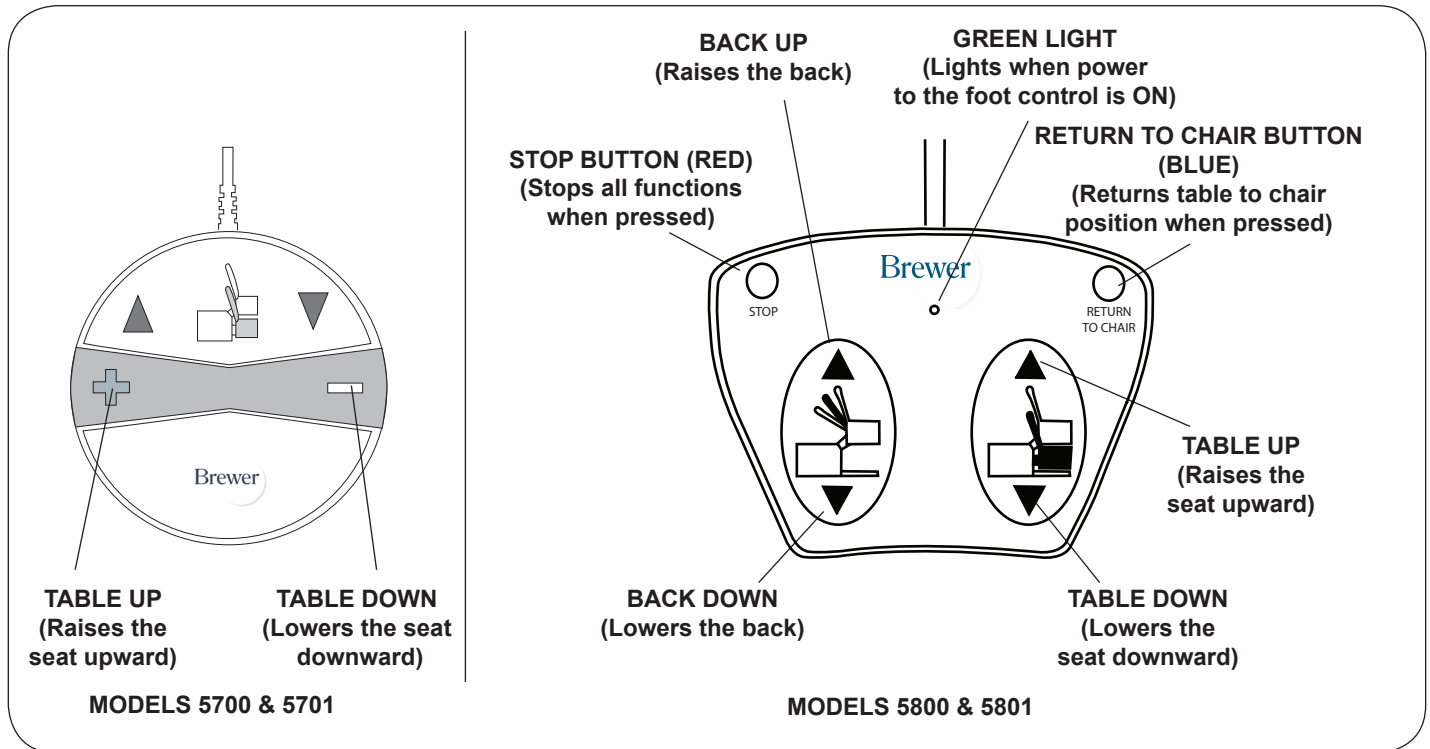
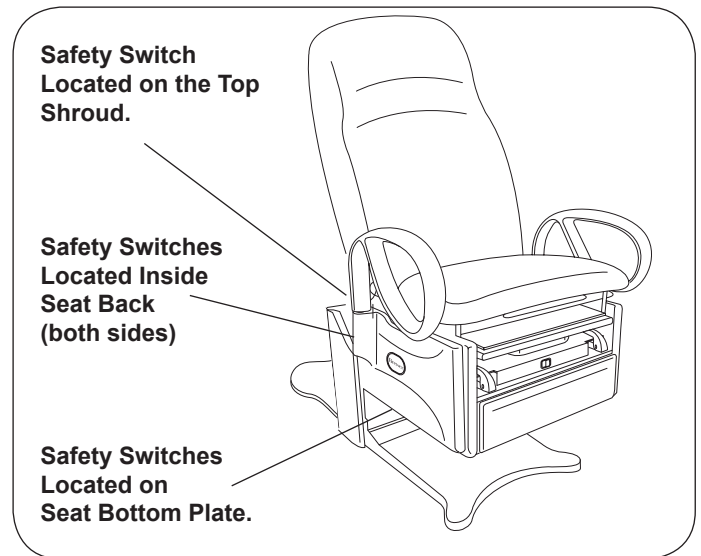

Figure 19. Foot Controls
Figure 20. Seat and Backrest Safety Switches
All models are equipped with switches on the seat bottom (Figure 20 and 49) which automatically stops the lowering function of the seat if any of the switches comes into contact with an object as the seat is lowering. To continue lowering the seat, press up on the "TABLE UP" pedal (Figure 19), clear the obstruction, and continue lowering the seat.
All models are equipped with a switch on the top shroud (Figure 20 and 48) which automatically stops the lowering function of the seat and back if the switch is contacted by the backrest. To continue lowering the seat:
- **Models 5800 & 5801** - Depress the "BACK UP" pedal (Figure 19) to clear the switch. When clear of the switch continue lowering the seat.